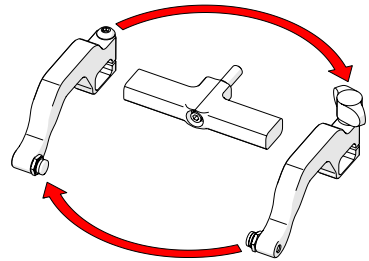

Fig. 46 - Reverse position around yoke
4. Position the removed arms to the opposite sides of the yoke (Fig. 46).